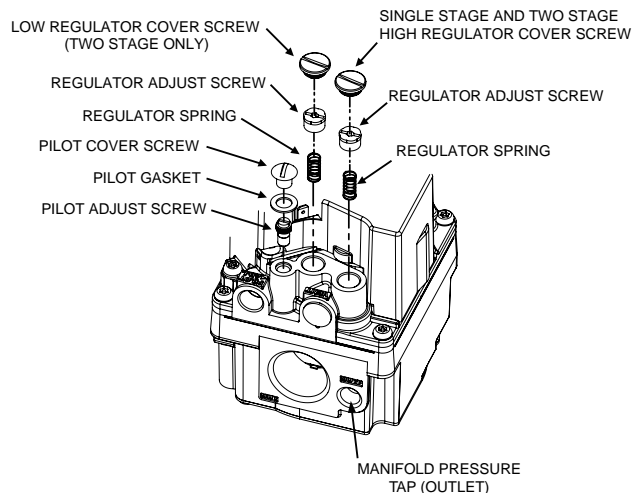

Figure 2. Two-Stage White Rodgers Gas Valve
4. Move the gas valve lever/switch/knob to the ON position. See Figure 2 (page 5). **NOTE:** The lever/knob must be moved to the end of its range of motion to insure the valve is completely open. Use only your hand to push in or turn the gas control valve. Never use tools.
3. Using a 3/16" Allen wrench, remove the manifold pressure tap plug located on the outlet side of the gas valve. See Figure 2 (page 5).